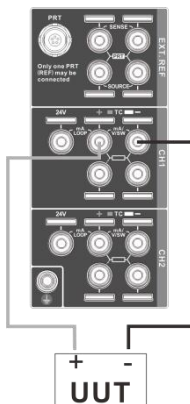

Figure 11 Voltage (V) Measurement Wiring Diagram
1. Voltage (V) Measurement Line Connection.
Voltage (V) Measurement Line Connection as shown in Figure 11.